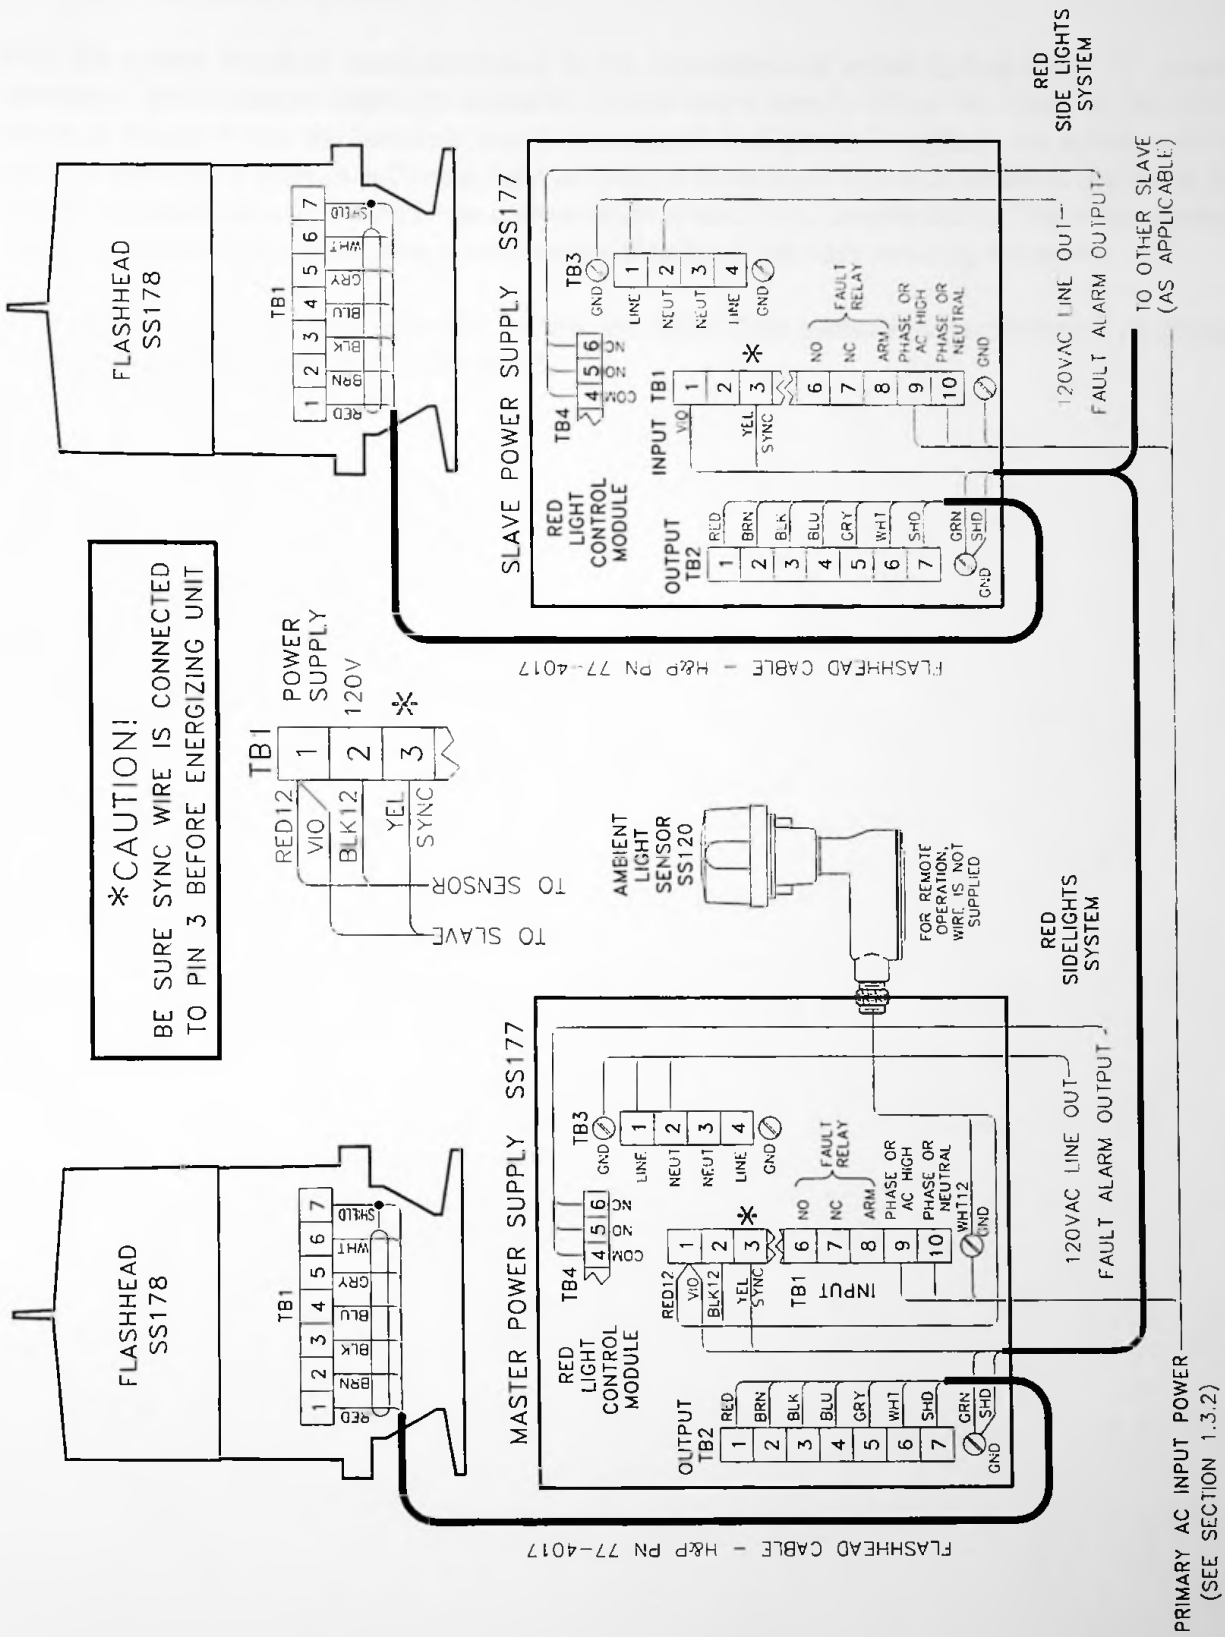

Figure 2-3. INSTALLATION WIRING FOR MASTER/SLAVE UNITS
**STEP4** - For structures with two (2) or more systems make the interconnects between the Master power supply and Slave power supply (s) using the H&P supplied cable (77-4231). The wires in this cable are connected to) **TB1 in the Power Supply** (s) per *Figure 2-3*. This cable has a total of 10 conductors and can be used to distribute power and consolidate alarm functions to and from slave power supplies. For details *consult Factory*.